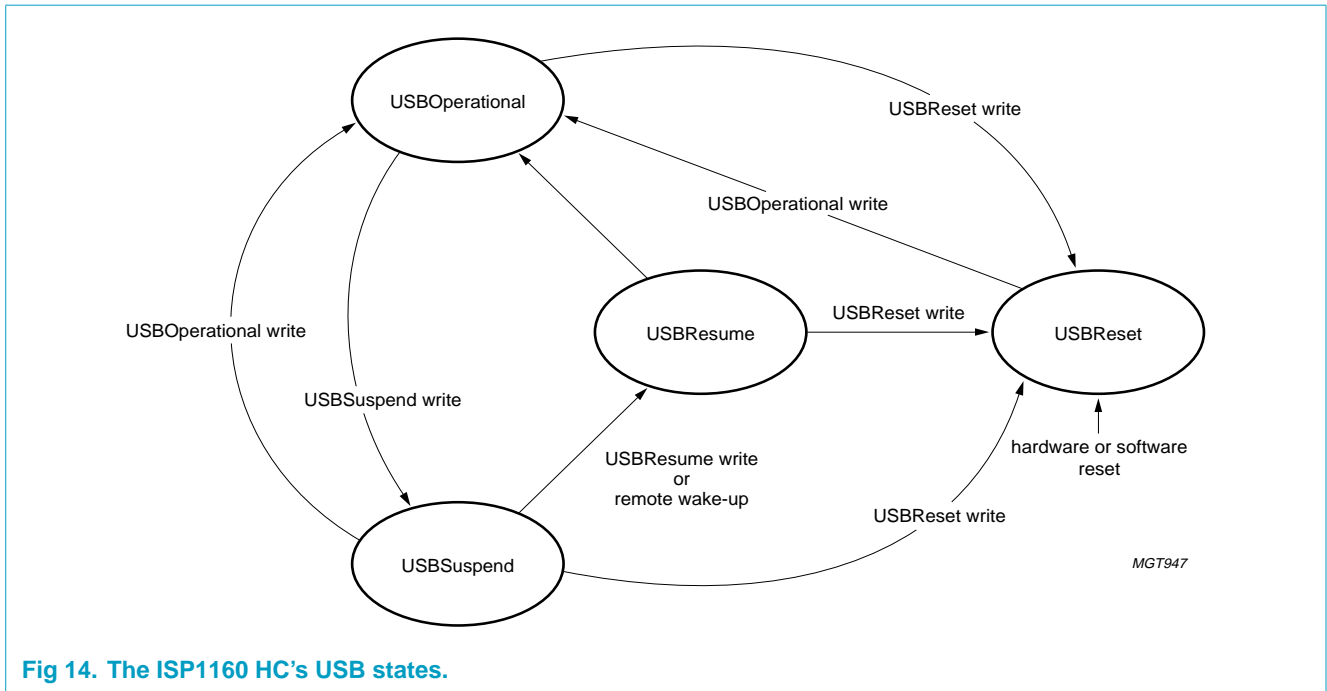

Fig 14. The ISP1160 HC's USB states.
The HCD can perform only the USB state transitions shown in **Figure 14**.
**Remark:** The Software Reset in **Figure 14** is not caused by the HcSoftwareReset command. It is caused by the HostControllerReset field of the HcCommandStatus register (02H to read, 82H to write).